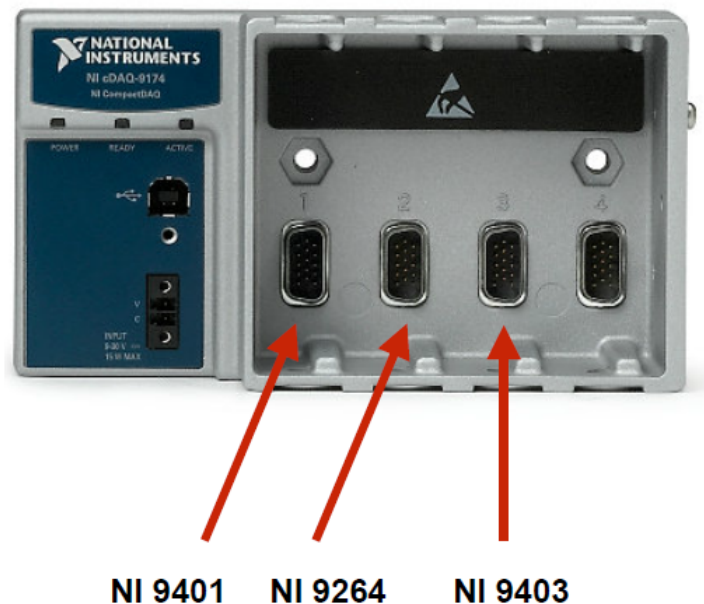

Figure 1: Position for the single DAQ modules in the *NI cDAQ-9174* chassis.
- [2] Referring to the manuals from [1], insert the DAQ modules into the *NI cDAQ-9174* chassis as shown in Fig. 1.